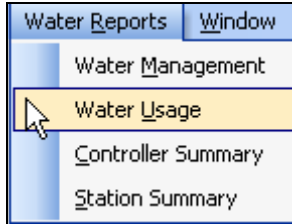

Figure 27.0.1
- From the toolbar at the top of the screen select **Water Reports** then scroll down to **Water Usage** and click on it (Figure 27.0.1).